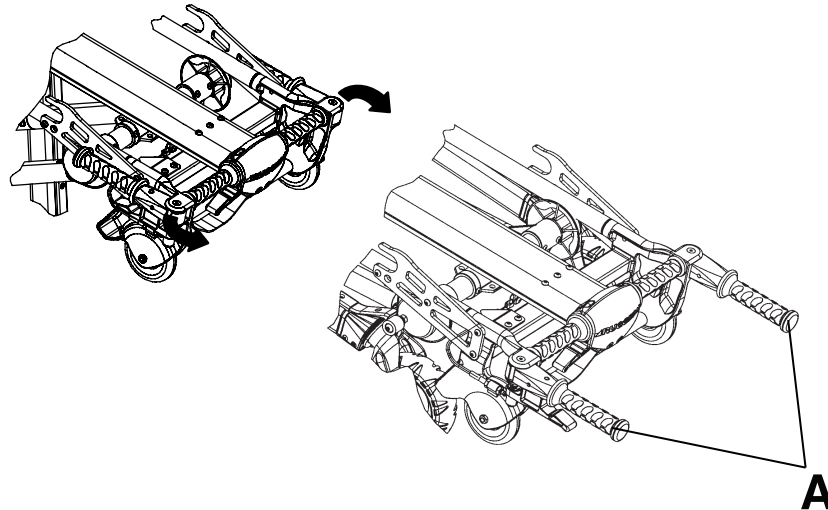

Figure 16 – Positioning the lifting handles
1. Pivot the retractable lifting handles (A) into position (Figure 16).